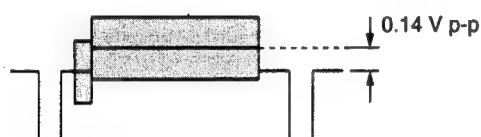

Fig.5. SECAM all gray signal
2. Input the SECAM all gray signal (Fig. 5) into the LINE-A.